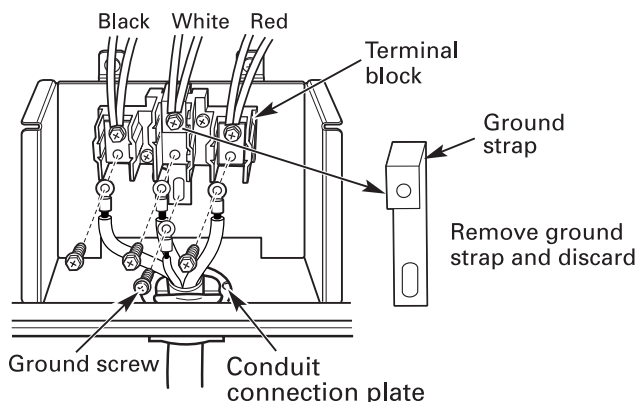

FIGURE 9
1. Remove the lower 3 screws from the terminal block and retain them. (Refer to Figure 9.)
2. Remove ground strap and discard as shown in Figure 9.